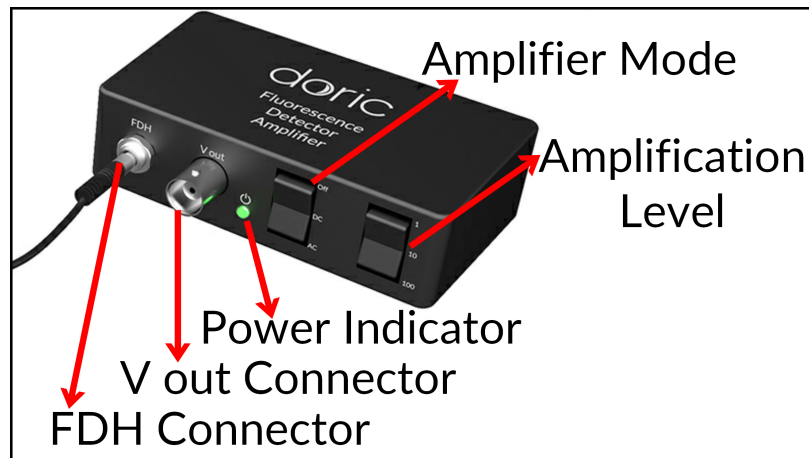

Figure 1.3: Doric Fluorescence Detector Amplifier Elements
- The **FDH Connector** (Fig. 1.3) is an M5 type connector used to link the amplifier and the head using a shielded M5 cable.
- The **V out Connector** (Fig. 1.3) is a BNC type connector used to connect the fluorescence detector with a DAQ system.
- The **Power Indicator** light (Fig. 1.3) shines green when the detector is on.
- The **Amplifier Mode** switch (Fig. 1.3) is used to switch the detection mode from **Off** to **AC** or **DC**.
- The **Amplification Level** switch (Fig. 1.3) allows the choice of amplification levels at 1, 10 or 100 times.